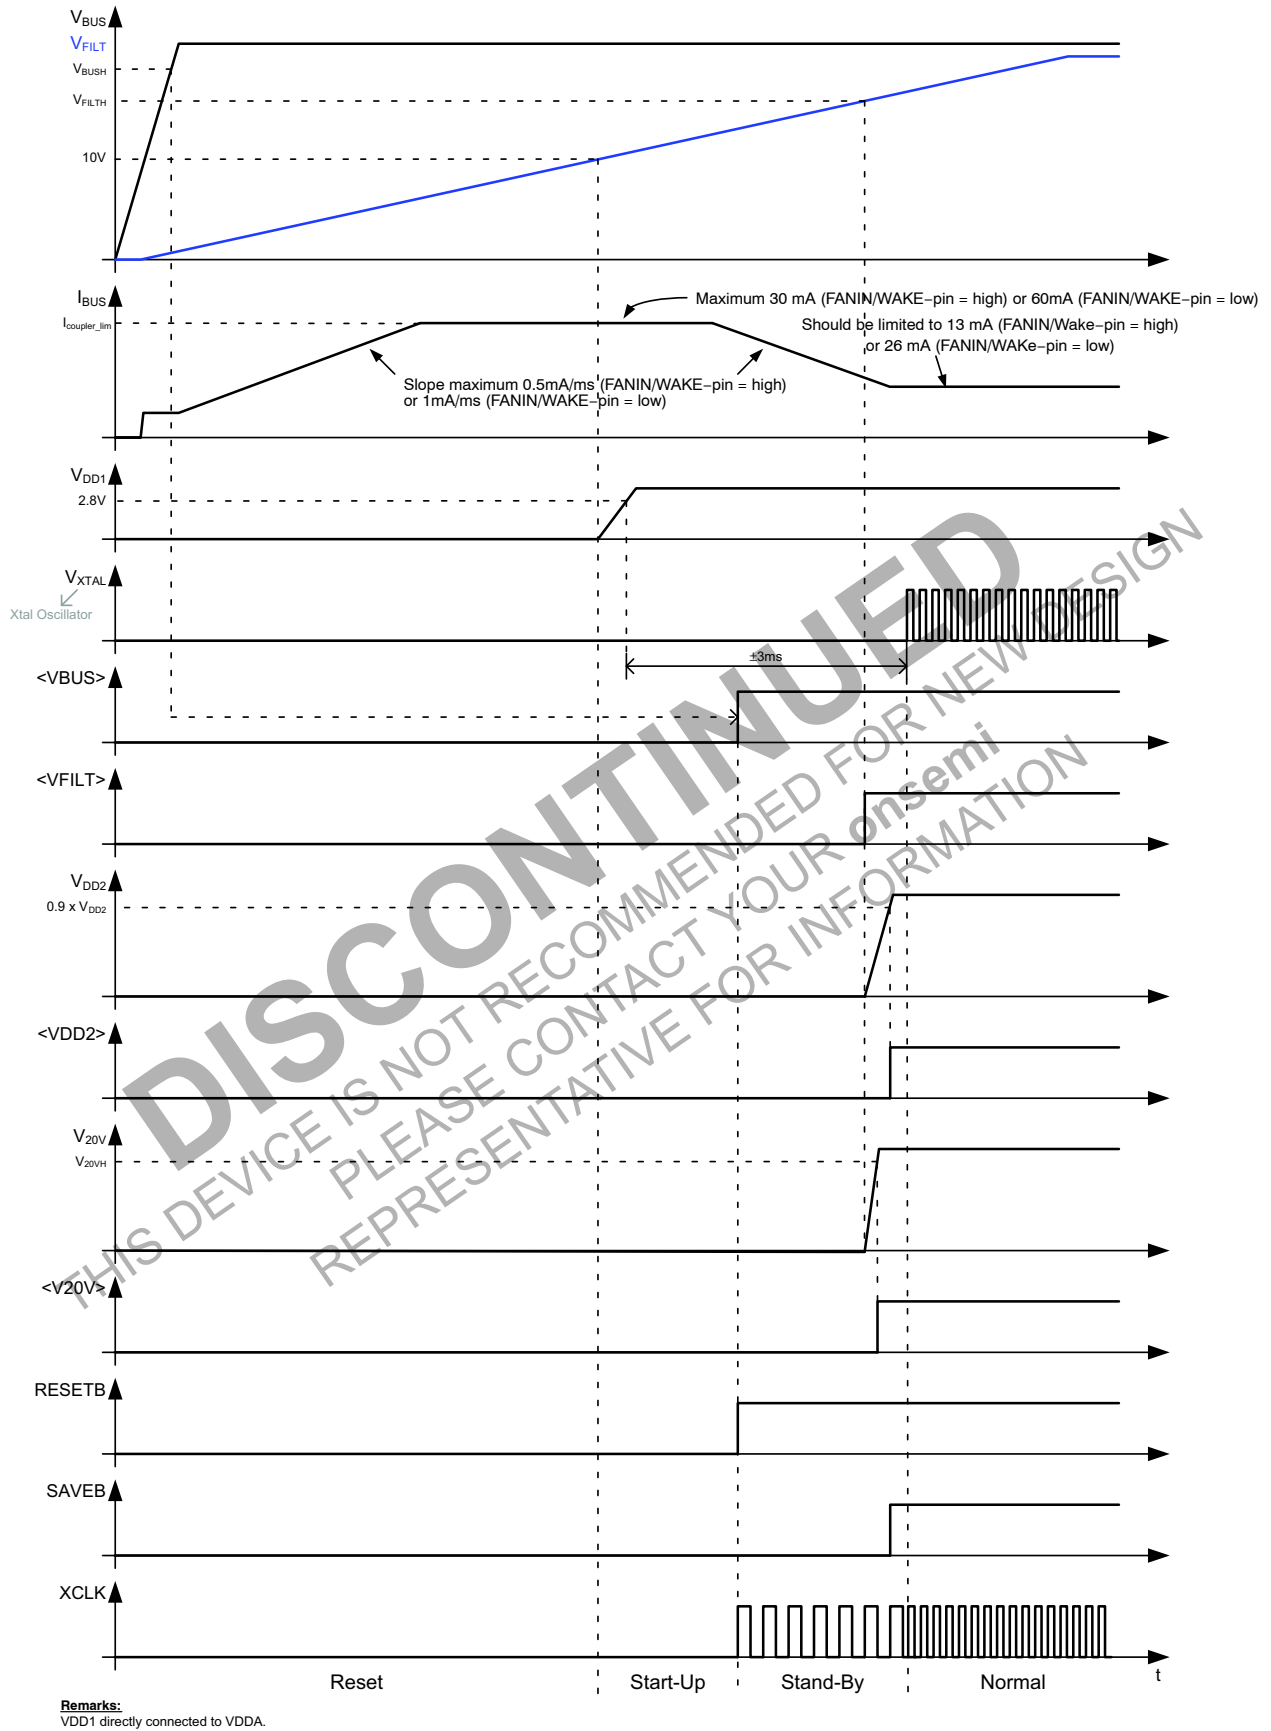

Figure 21. Start-Up Behavior
After power-up, a 4 MHz (Note 3) clock signal will be present on the XCLK-pin during Stand-By. When Normal State is entered, a 8 or 16 MHz clock signal will be present on the XCLK-pin. See also Figure 21.
Figure 21 gives a detailed view on the start-up behavior of NCN5120. After applying the bus voltage, the filter capacitor starts to charge. During this Reset State, the current drawn from the bus is limited to $I_{coupler}$ (for details see the KNX Standards). Once the voltage on the filter capacitor reaches 10 V (typ.), the fixed DC-DC converter (powering VDDA) will be enabled and the device enters the Start-Up State. When V_{DD1} gets above 2.8 V (typ.), the OTP memory is read out to trim some analog parameters (OTP memory is not accessible by the user). When done, the Stand-By State is entered and the RESETB-pin is made high. If at this moment V_{BUS} is above V_{BUSH} , the VBUS-bit will be set (<VBUS>, see System Status Service, p34). After approx. 2 ms the Xtal oscillator will start. When V_{FILT} is above V_{FILT_H} DC2 and V20V will be started. When the Xtal oscillator has started, no Thermal Warning (TW) or Thermal Shutdown (TSD) was detected and the VBUS-, VFILT-, VDD2- and V20V-bits are set, the Normal State will be entered and SAVEB-pin will go high.